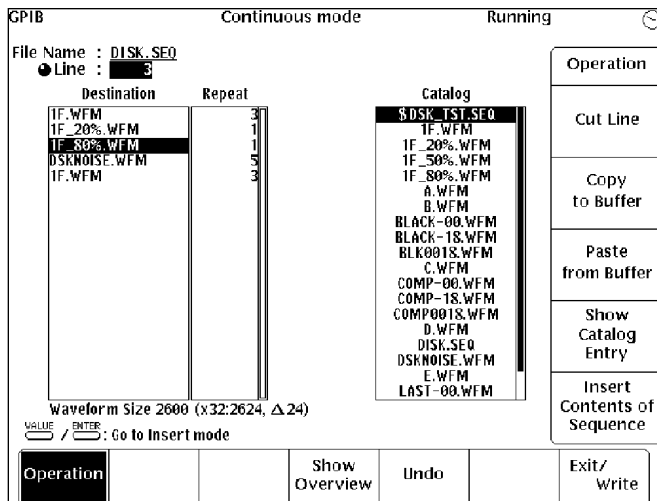

Figure 7. Disk-drive waveform sequence DISK.SEQ with line 3 cut.
4. Select CUT LINE on the side menu. The screen should look like Figure 7. When CUT LINE is selected, the highlighted line 3 in the Destination list is deleted and put into the paste buffer.